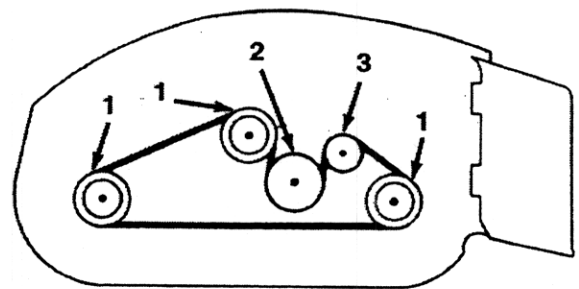

Figure 12—Belt Routing
2. Remove the nut securing the spring anchor to the capscREW in the housing (Fig. 12). Lift the anchor off the capscREW and let the belt relax.
4. Install new belt around spindle pulleys, gearbox pulley, and idler pulley (Fig. 12).